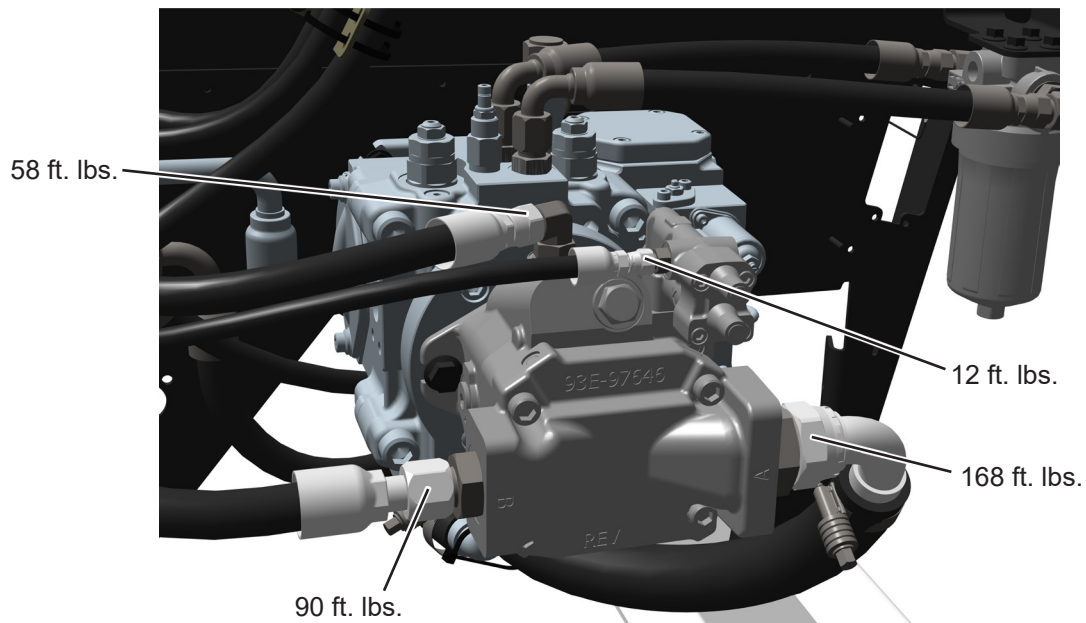

Figure 8
32. Reconnect hydraulic hoses disconnected in Step 6 to auxiliary pump. See Figure 8 for hose end torques.